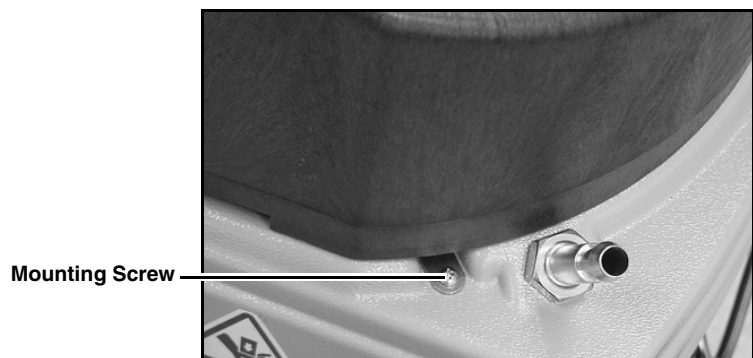

Figure 9-3 Controller mounting screw (1 of 4)
3. Remove the controller from refrigerator assembly by removing four screws. See Figure 9-3.